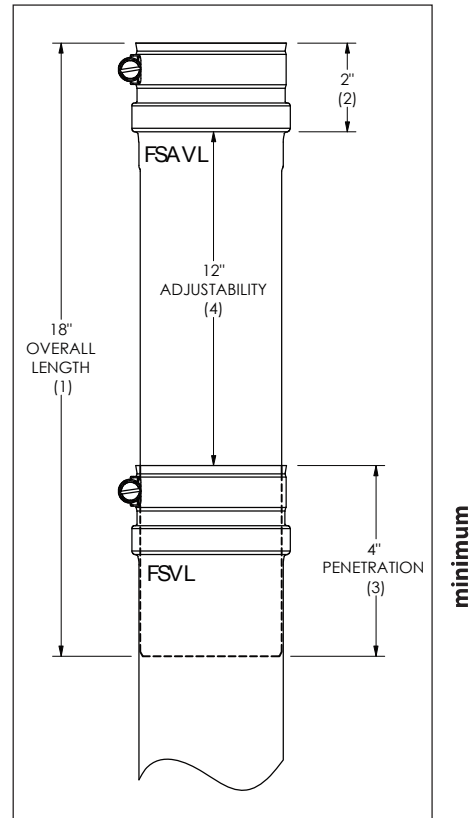

Figure 1 (single-wall)
Use the FSAVL vertically for easy adjustment of the required minimum 1/4" per foot pitch. Technical details about the stand alone FSAVL (*see Figure 1 & 1a*): The overall length of all FSAVL Adjustable Vent Length is 18" (1). The female end (2) measures 2", leaving 12" to telescope into a standard vent length.